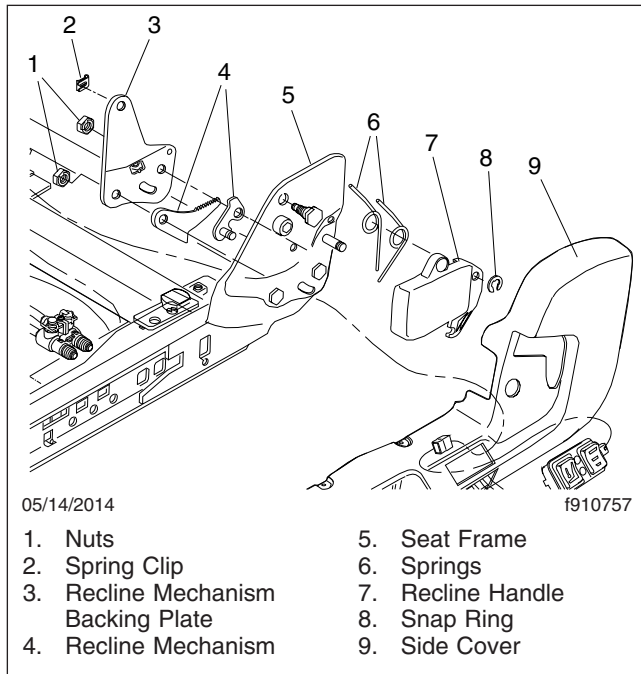

Fig. 6, Recline Handle and Mechanism Installation
7. Remove the snap ring from the handle pivot pin, then remove the handle. See Fig. 6.
1. Using grease, lubricate the contact edges and pivot holes of the two-piece recline mechanism. See Fig. 6.